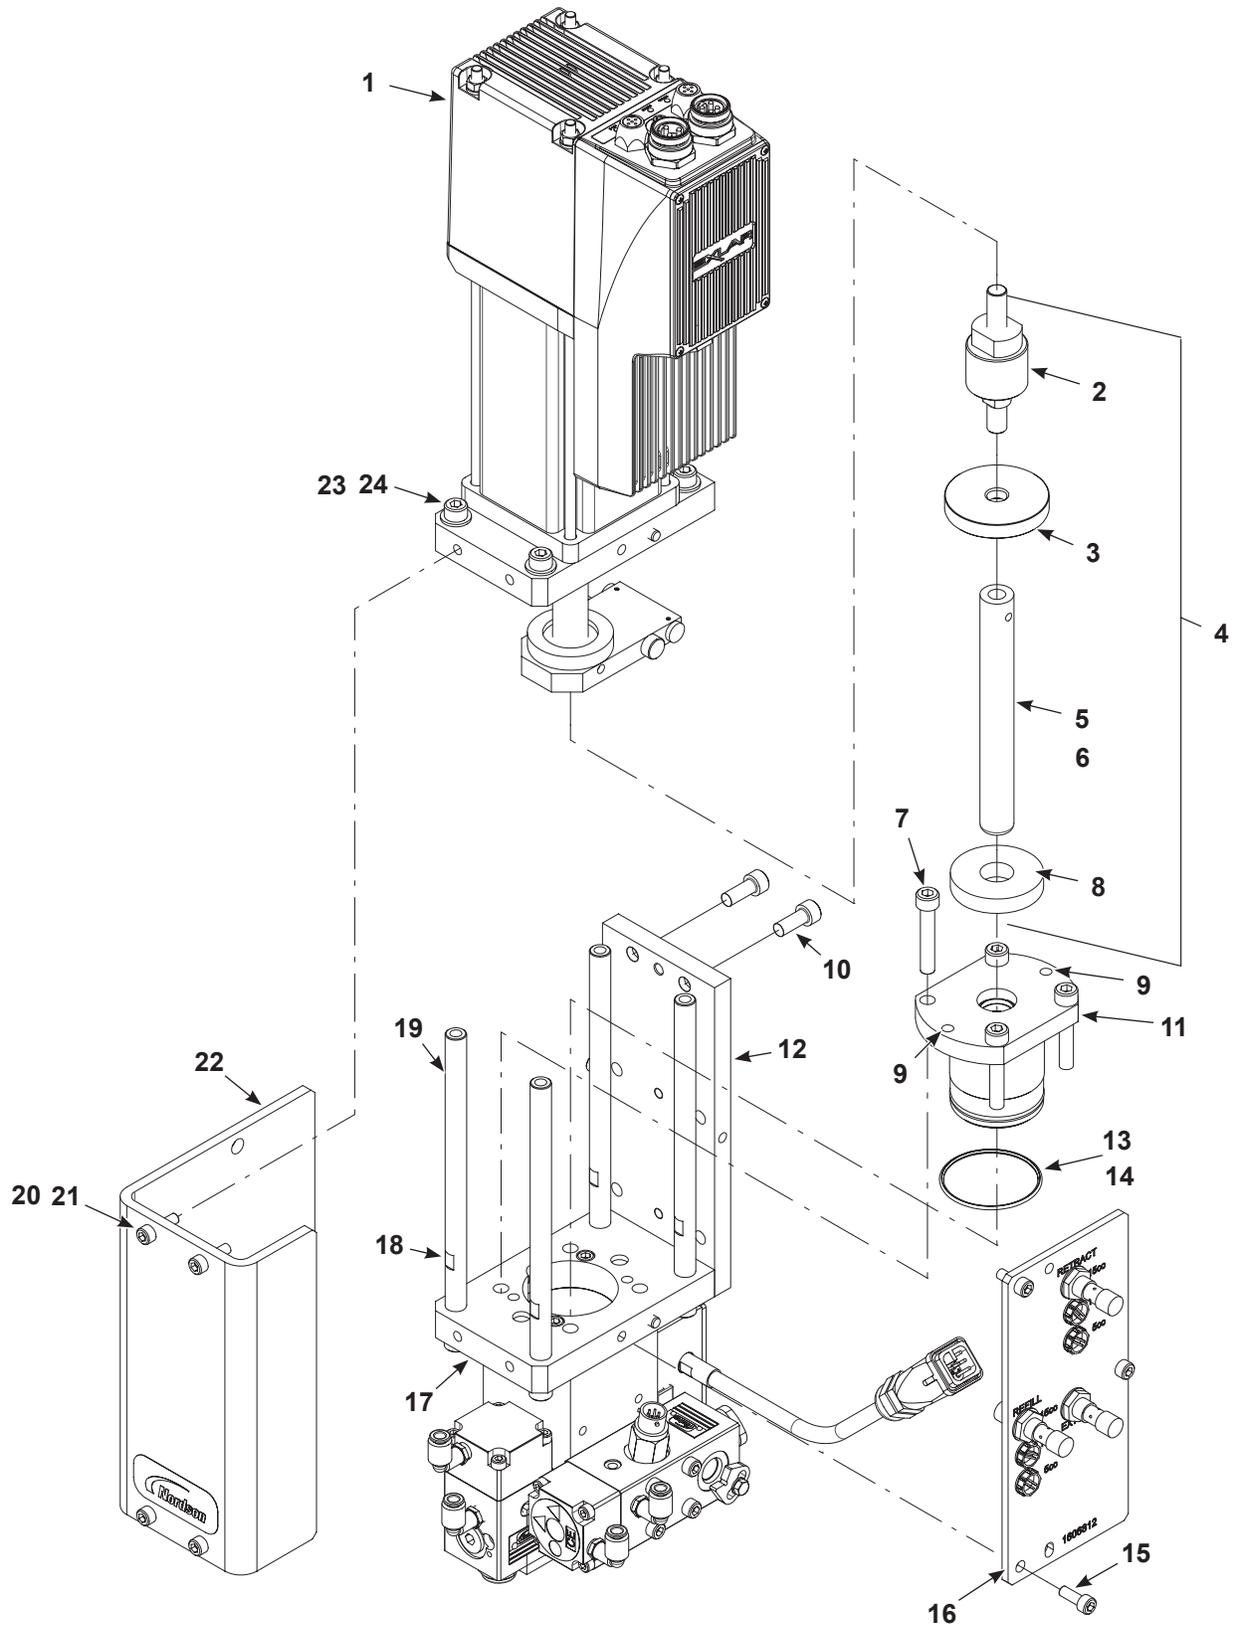

Figure 18 Plunger and Gland Assembly Repairs
2. See Figure 18. Remove the screws (21) and washers (20) securing the shroud (22) to the linear actuator (1) and housing flange (17).
3. Remove the screws (15) securing the proximity plate (16) to the linear actuator (1) and housing flange (17).
4. Remove the coupling (2) from the actuator (1) shaft.
5. Remove the screws (10) securing the mounting plate (12) to the actuator (1).
6. Remove the screws and washers (23, 24) securing the actuator (1) to the shafts (19).
7. Remove the actuator (1).
8. Remove the screws (7) securing the gland assembly (11) to the housing flange (17). Perform the following if the gland assembly cannot be removed from the housing flange:
- a. Insert two screws (7) into the threaded holes (9) of the gland assembly.
9. Remove the O-ring (13) from the gland assembly (11). Discard the O-ring.
10. Using an arbor press, remove the plunger assembly (4) from the gland assembly (11).
1. See Figure 18. Lubricate the gland assembly O-ring (13) and the inner diameter of the gland assembly (11) with TFE grease (14).
2. Assemble the plunger assembly (4):
- a. Install the proximity disc (3) onto the plunger (5).
- b. Thread the coupling (2) into the plunger. Insert the spanner wrench pin into the hole on the plunger and tighten the screw to 13.5 N•m (10 ft-lb).
- c. Install the plunger bumper (11) into the plunger. Make sure that the plunger bumper makes contact with the proximity disc.
- d. Apply TFE grease (14) to the shaft of the plunger.
3. Using an arbor press, insert the plunger assembly (4) into the gland assembly (11).
4. Install the gland assembly (11) onto the housing flange (17) using the screws (7). Tighten the screws in a cross-pattern to